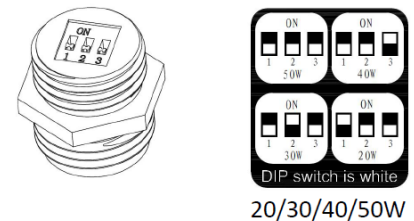

FIG. 5
- b) Toggle DIP switches to select desired wattage for the luminaire (figure 5)